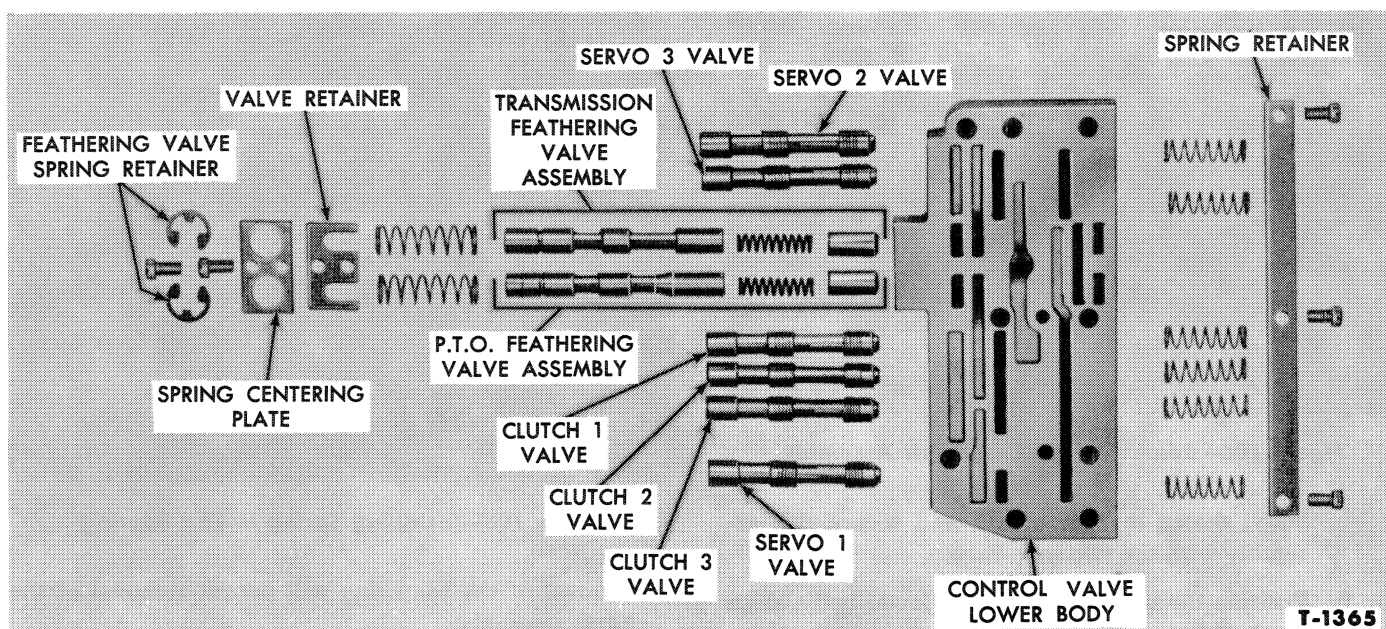

Figure 104—Control Valve Lower Body
2. Remove the three screws that attach the spring retainer to the lower body, Figure 104. Remove the six springs.